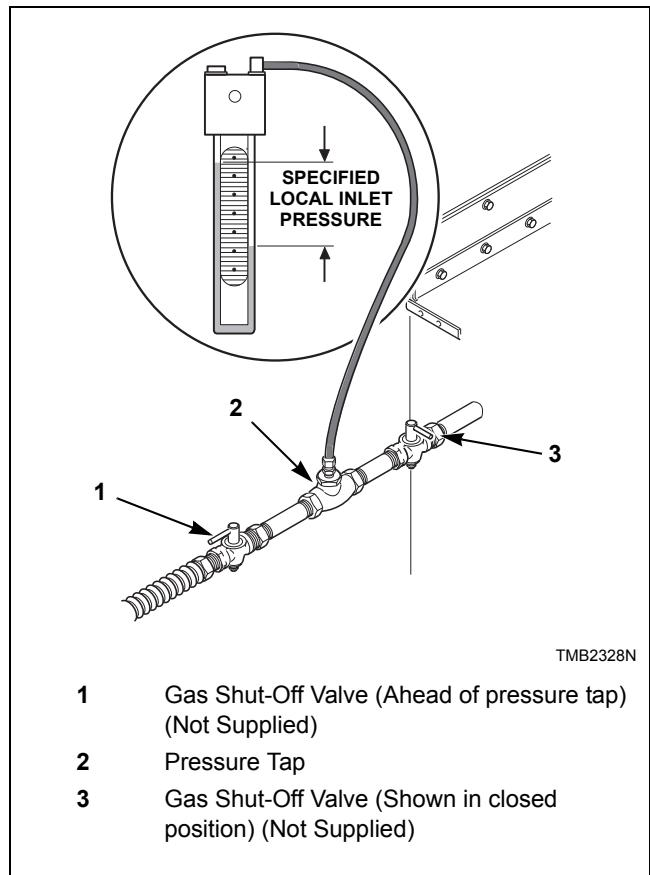

Figure 7
1. Disconnect electrical power from tumble dryer. Close gas shut-off valve to tumble dryer. Refer to Figure 7.
1. Disconnect electrical power from tumble dryer. Close gas shut-off valve to tumble dryer. Refer to *Figure 7*.